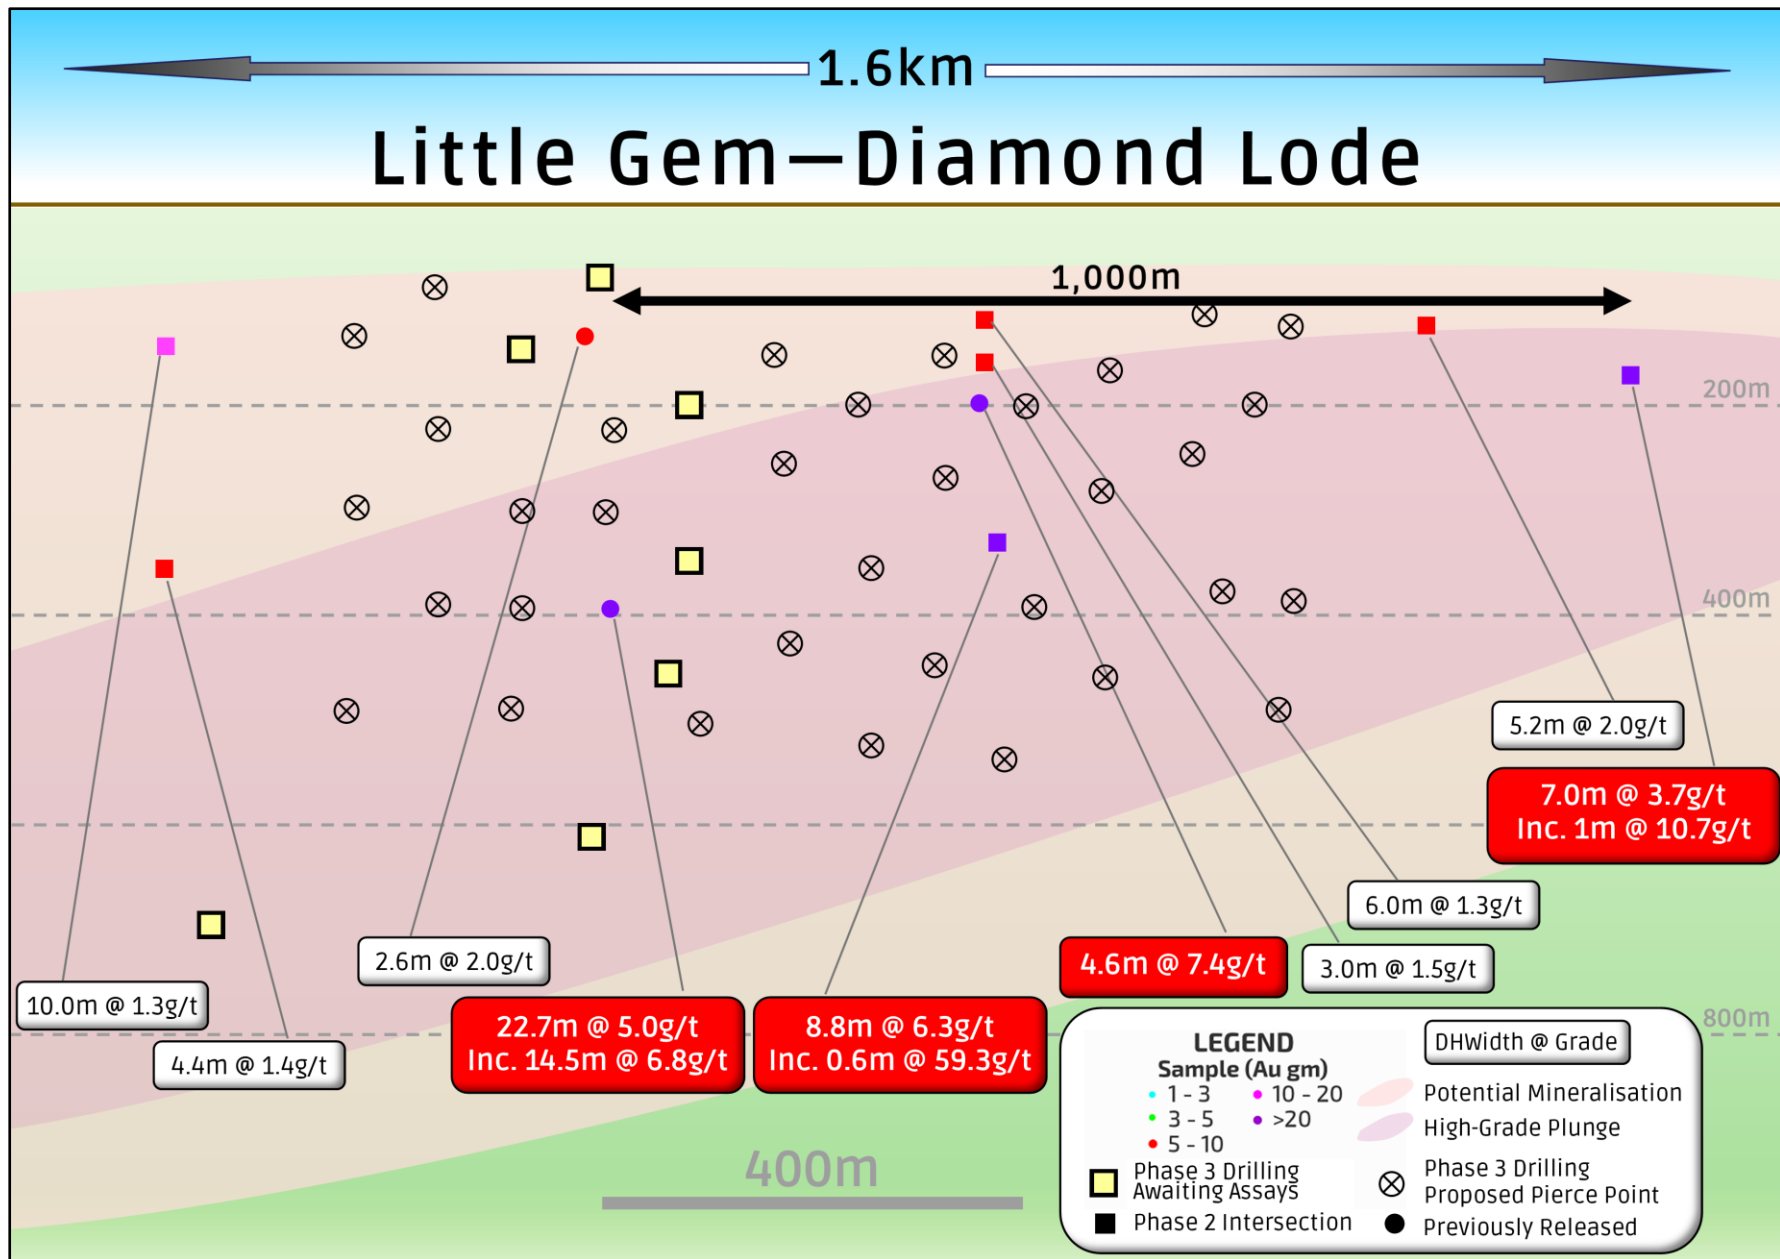

Figure 3 – Zoomed in long section of the Diamond Lode, which is part of the Little Gem multi-lode system (looking west).
- The LGDD25008 intersection shows that the prospective strike of a well-developed high-grade shoot on the Diamond Lode is over 1,000 metres and remains open at depth (See figure 3)
Significantly for the Phase 2 program, Hole LGDD25008, on a 400-metre step out to the north of LGDD25005 (22.7m @ 5.0g/t) and targeting the Diamond Lode has returned 8.8m @ 6.3g/t at a depth of 320 metres below surface (See Figure 3). This intersection shows that the prospective strike of a well developed high grade shoot on the Diamond Lode has a potential strike length in excess of 1,000 metres and depth extents of at least 400 metres below surface.
Drilling has defined multiple lodes at the Little Gem prospect, with the Company having now modelled four of these, namely the Diamond Lode, Ruby Lode, Sapphire Lode and the Tanzanite lode (See Figure 3, 4 and 5). The Diamond and Ruby Lodes remain the priority targets for the immediate Phase 3 drilling program, with the other lodes being tested over the course of FY26.